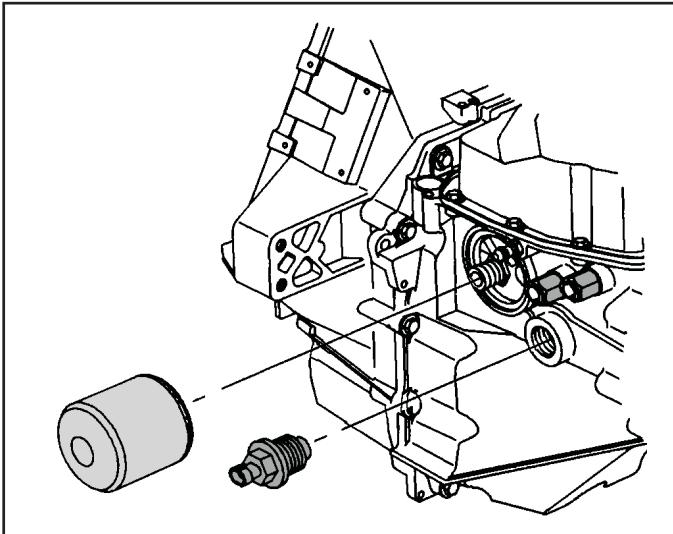

Figure 59
5. Using a suitable oil filter wrench, remove the external filter from the case and DISCARD the filter (See Figure 59).
6. Using a 24mm wrench, remove the turbine shaft speed sensor (See Figure 59).